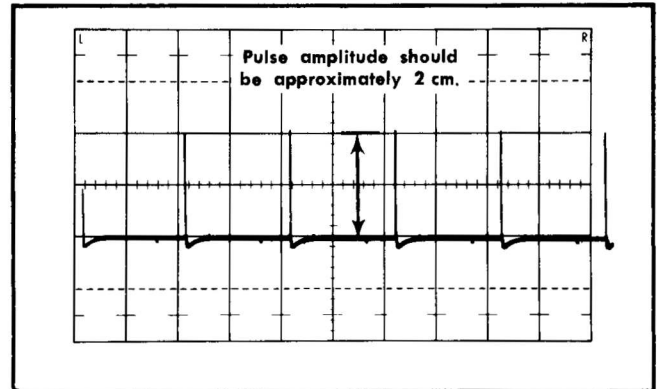

Fig. 6-10. Typical test oscilloscope display when checking Pre Trigger pulse amplitude.
- e. Check—Amplitude of the positive going pulse should be approximately 2 cm (see Fig. 6-10).
- i. Check—Amplitude of the positive going pulse should be approximately 2 cm (see Fig. 6-10).